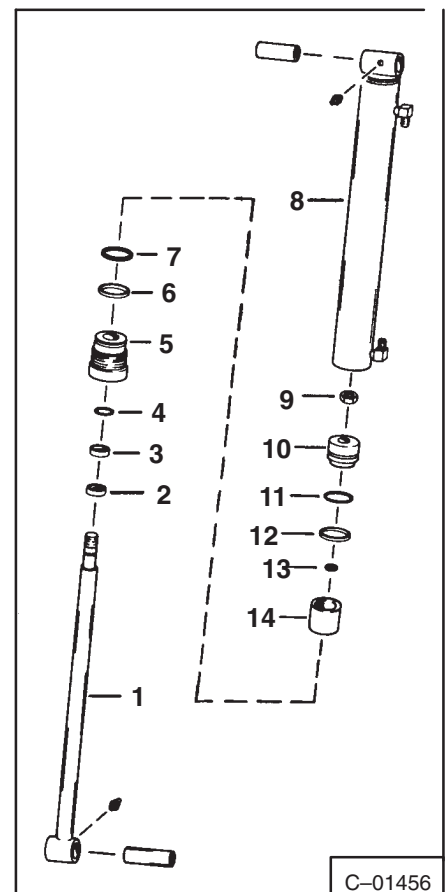

Fig. 75 Hydraulic Cylinder Breakdown
1. Install the cylinder head seals (Fig. 75, Items 2, 3, 4, 6 & 7) and place the cylinder head carefully onto the cylinder shaft.